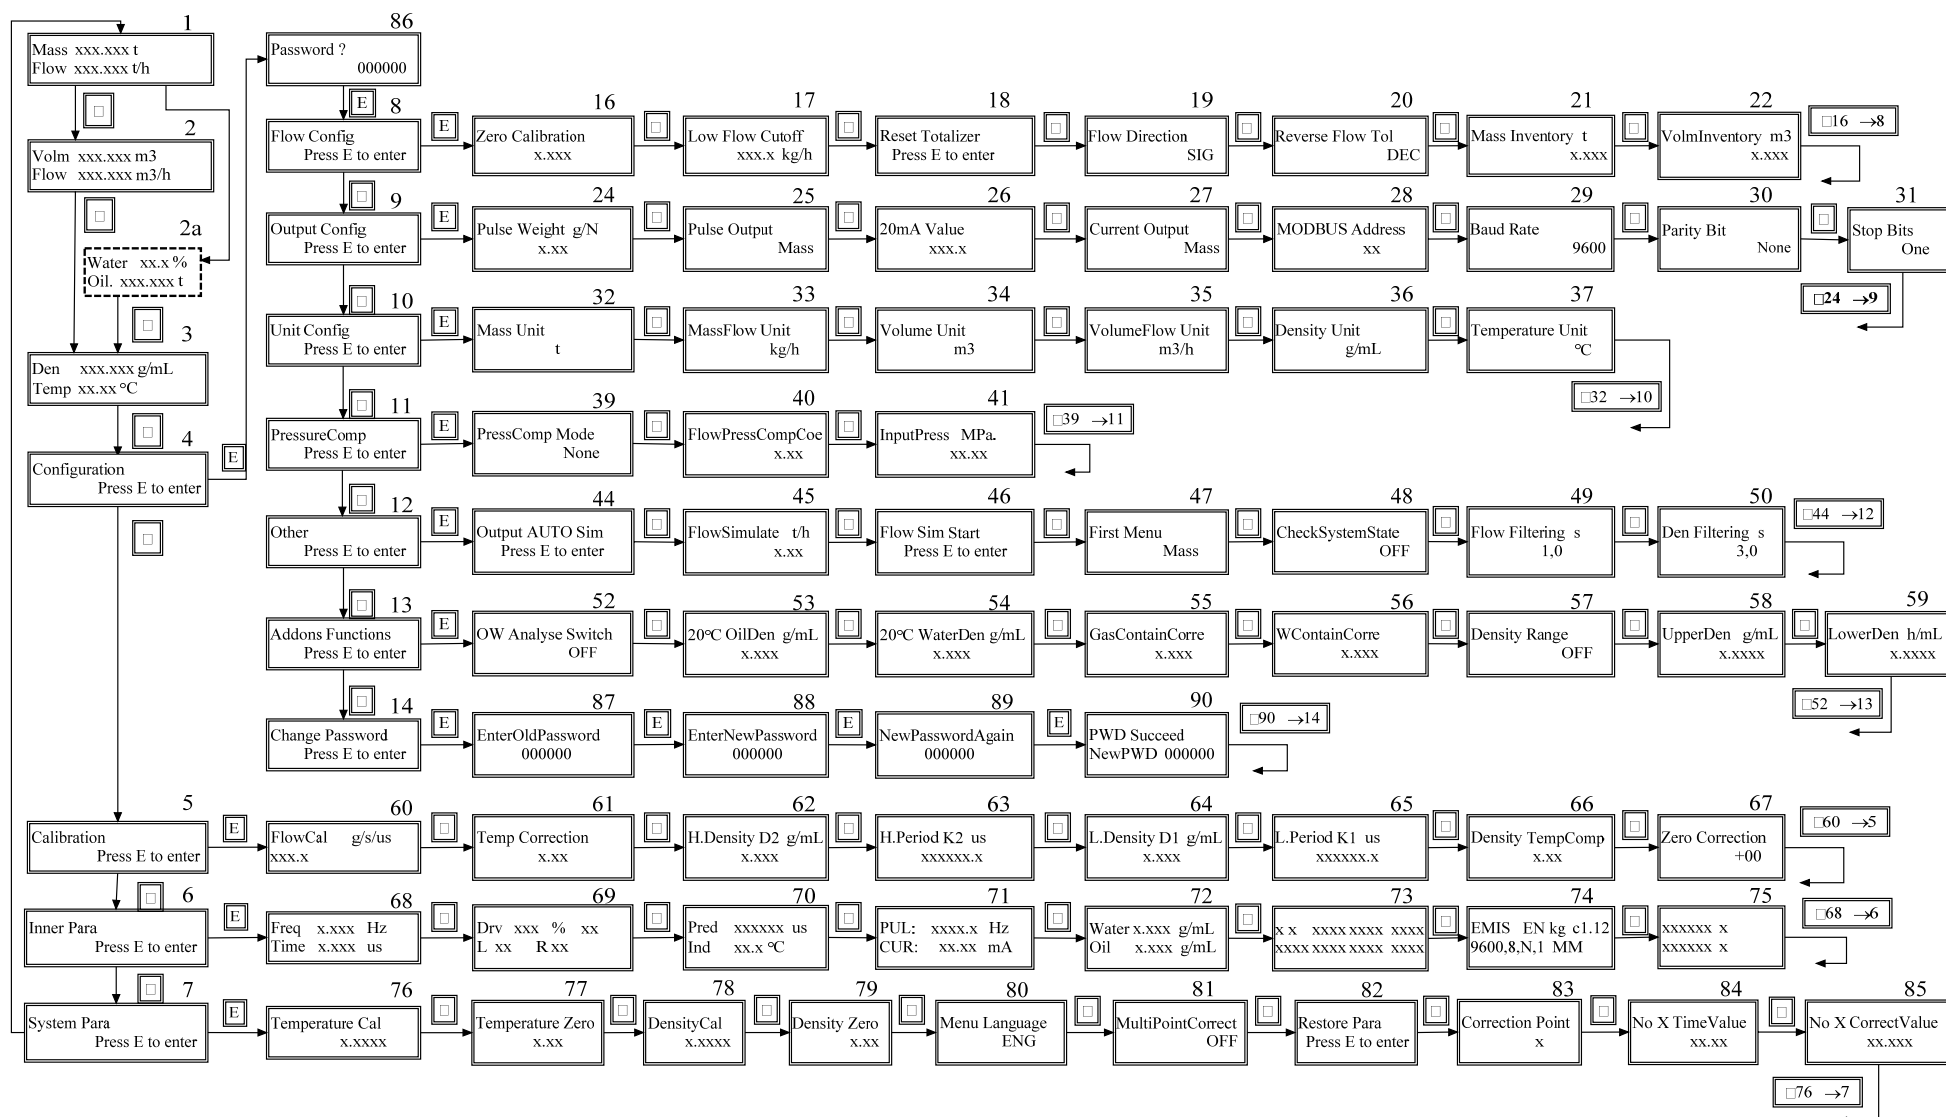

Figure 2.14 Display menu structure(Refer to our latest version per P.O)
If no button is pressed within two minutes, flowmeter is automatically switched to display mass or volume flow rate (Menu items 1 or 2), depending on the state of the menu item 47 "First Menu". The flowmeter can be configured via display menu. The structure of the menu is shown in Figure 2.14, description of the menu items presented in Table 2.7.